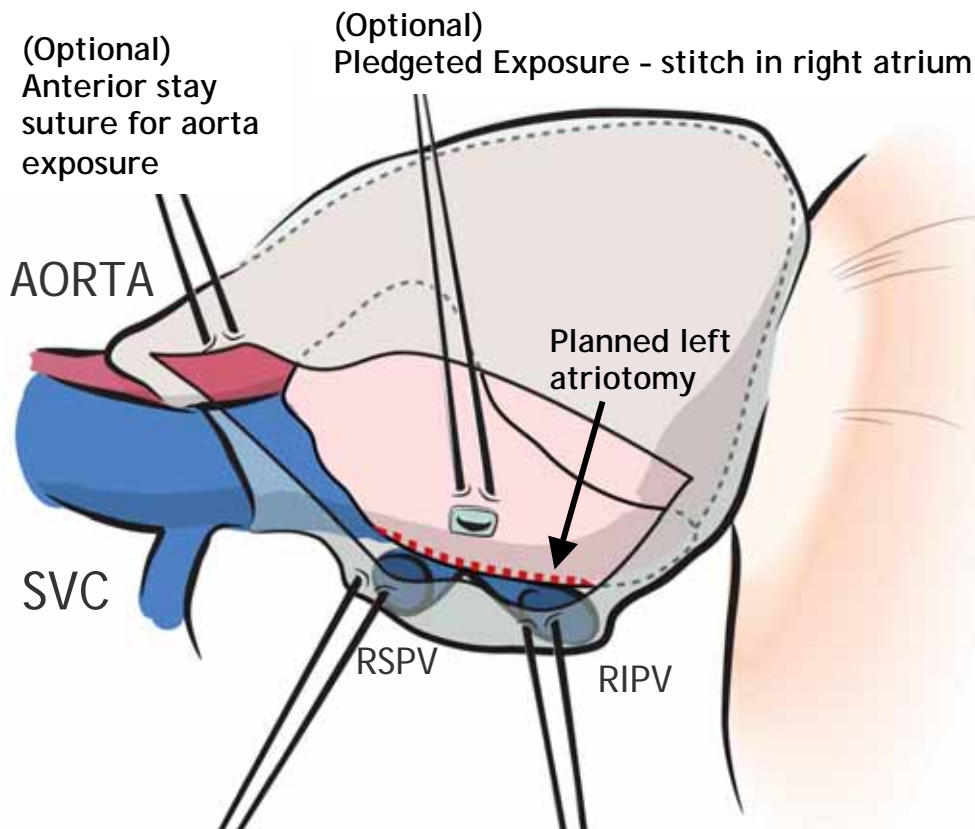

Figure 22: Layout of pericardial traction sutures and left atriotomy.
- These traction sutures are passed through the edge and the two cut ends are passed back to the *da Vinci* instruments and retrieved with the crochet hook through the previously placed Angiocaths [Figure 22]
- (Optional) Additionally, an anterior stay suture can be placed to expose the aortic root for visualization, which is helpful for placing the transthoracic cross clamp or to monitor the EndoBalloon when going on bypass. [Figure 22]
- (Optional) For facilitating initial exposure of the atrium after atriotomy, a pledgeted 4-0 Gore-Tex stitch can be placed in the edge of the right atrium and brought out through an Angiocath in the 3rd or 4th ICS lateral to the RIMA [Figure 22]